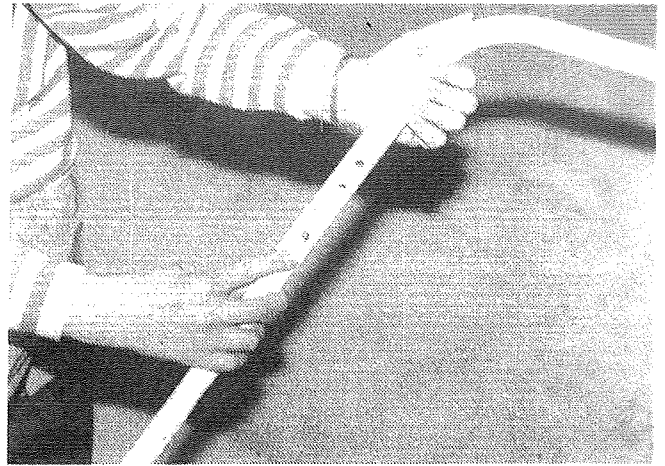

FIGURE 32
1. Adjust bed bow support as necessary to make the tent enclosure over the bed taut. This is done by pressing the release button on the pole and extending the rod to the next adjustable hole. See Figure 32.
11. Detach both front and rear bed bow supports from the roof retainer and from the bed bow. Lay the bed bow supports under each mattress. See Figure 32.